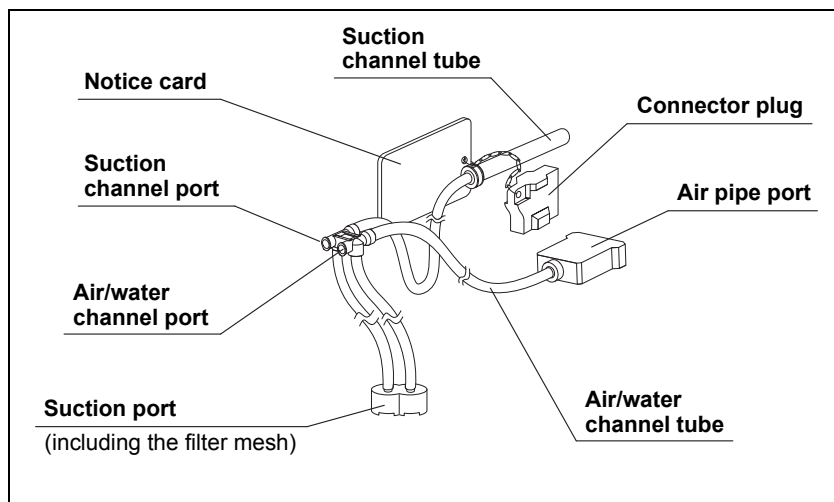

Figure 3.6
The injection tube is used to inject detergent solution, disinfectant solution, water and alcohol into the air/water and suction channels and to flush air through the channels to expel fluids (see Figure 3.6).
1. Confirm that all components of the injection tube are free from cracks, scratches, flaws and debris (see Figure 3.6).